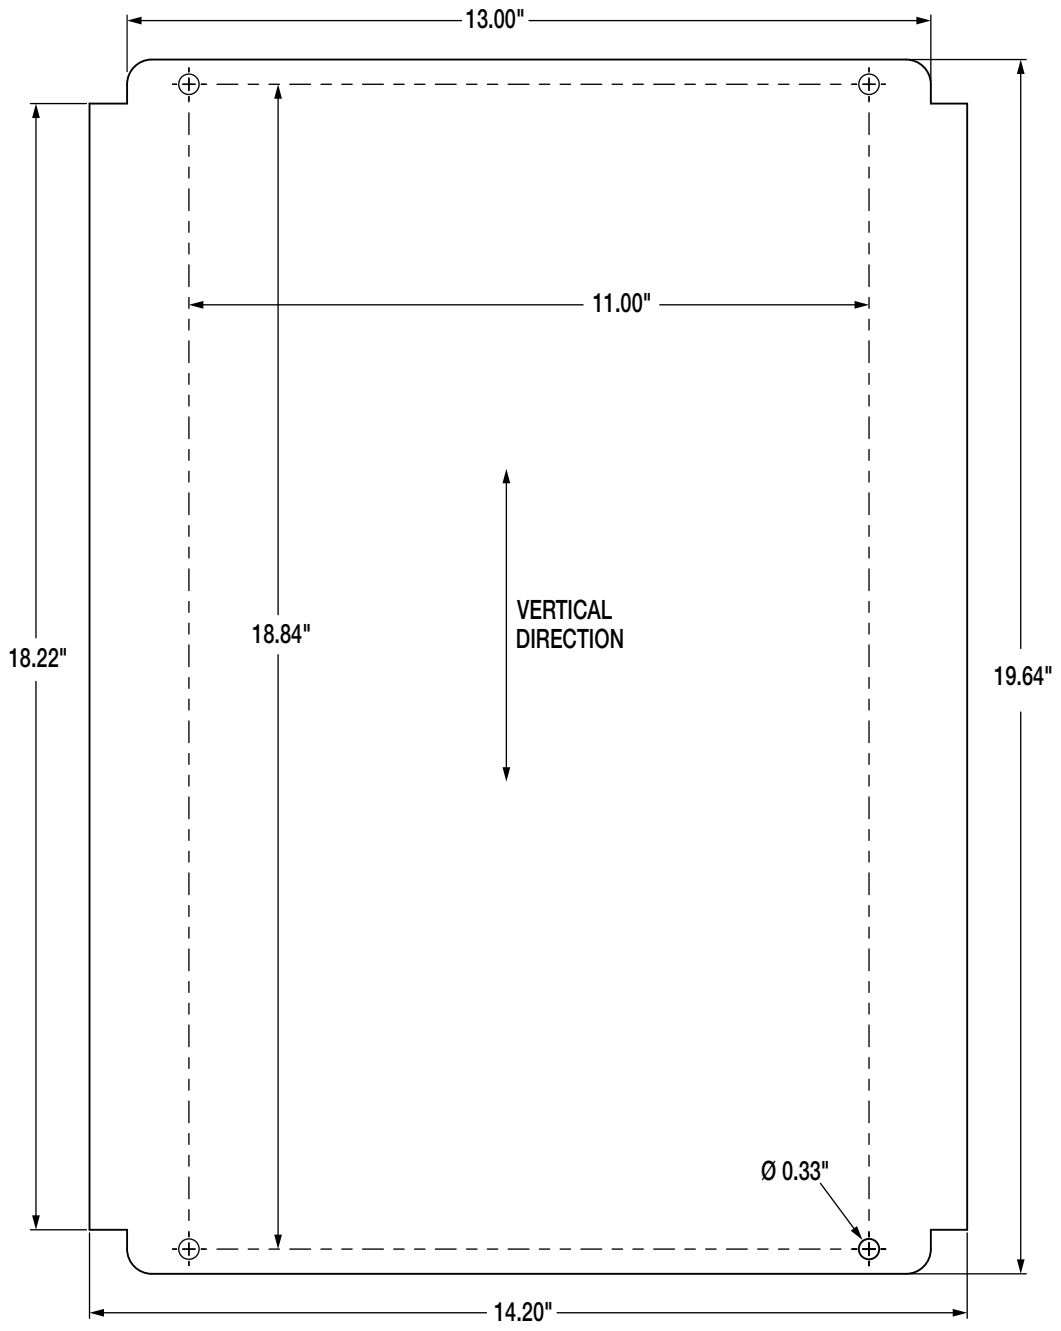

Figure 2-14. Wall Mount Dimensions
1. Using the wall mount as a template, mark the screw locations. See Figure 2-14 for dimensions.
Important This illustration is not to scale. It is for illustration purposes only. Use the dimensions to mark the holes for the wall mount. Do not use Figure 2-14 as a template.